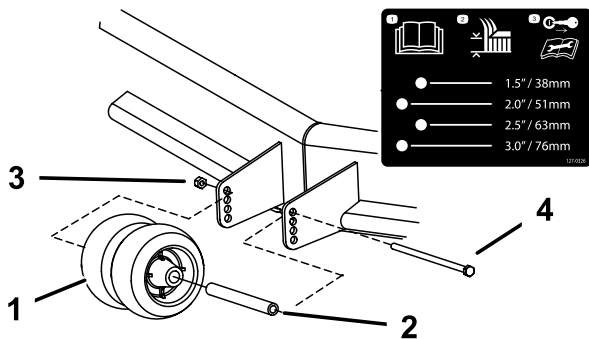

Figure 12
3. Adjust the anti-scalp rollers as shown in Figure 12.